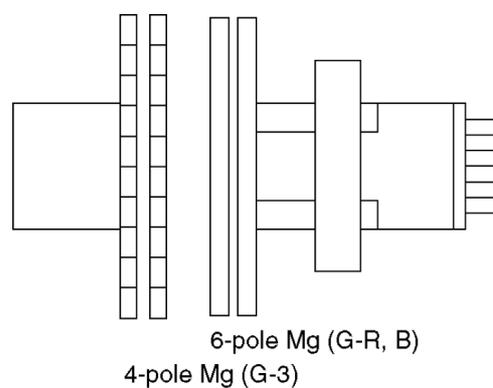

Fig. 1
- a. Make sure that magnets are positioned shown in Fig. 1.
- b. Adjust 4-pole magnets (Fig. 1) to align center dots of R and B and adjust 6-pole magnets to align center dots to G.